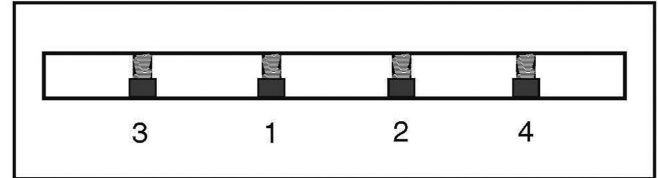

Figure 46. Clamp screw tightening sequence.
6. Install the knife and clamp in the cutterhead and slightly tighten each of the clamp screws in sequence, as shown in **Figure 46**.
9. Following the tightening sequence (see **Figure 46**), final tighten each of the clamp screws.